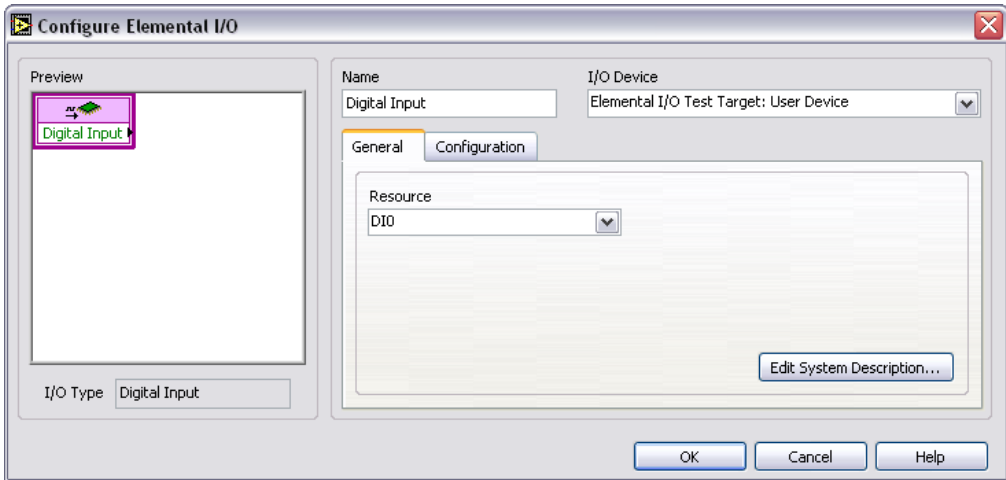

Figure 14. Configuring the Elemental I/O Node
2. Double-click the elemental I/O node to configure it. The **Configure Elemental I/O** dialog box appears as shown in Figure 14. The configuration dialog boxes are target-specific.